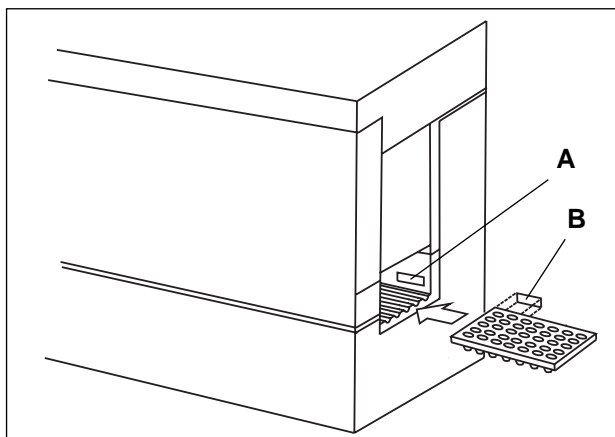

Figure 1.6
The PPC Load Module (Figure 1.6) contains an internal bar code reader (A) that automatically reads tray labels (B) which are placed on trays. Refer to *Tray Barcoding* in Section 5, *Operating Instructions* for proper bar code label placement. Trays that are not bar coded may be manually identified through the keypad.